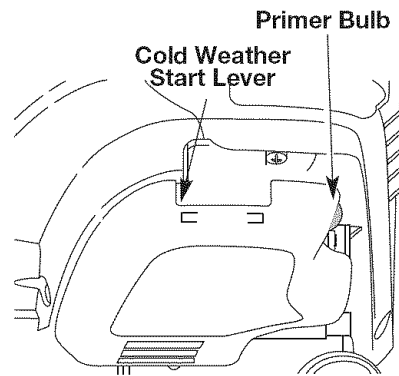

Fig. 7
**IF COLD...** For cold weather conditions (below 40°F), flip the Cold Weather Start Lever (Fig. 7) down to the start/closed position and continue to step 4. **DO NOT** flip this lever down if the temperature is above 40°F.
3. Fully press and release the primer bulb 10 times, slowly. Some amount of **fuel should be visible in the primer bulb** and fuel lines (Fig. 7). If you can't see fuel in the bulb, press and release the bulb as many times as it takes before you can see fuel in it.